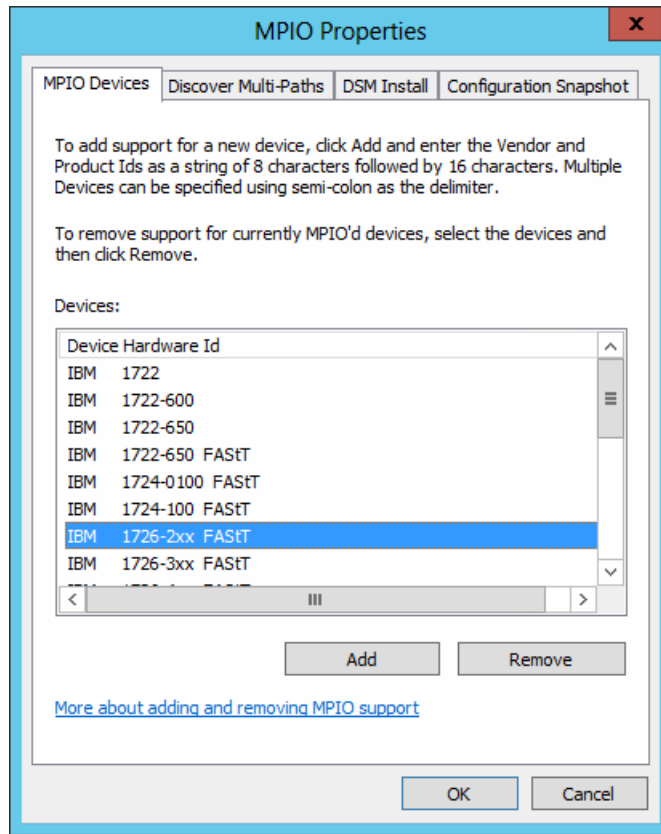

Figure 6-25 Windows 2012 MPIO properties
1. To remove the existing MPIO from the server Manager Dashboard, select **Tools** → **MPIO**. The MPIO properties pane opens, as shown in Figure 6-25.